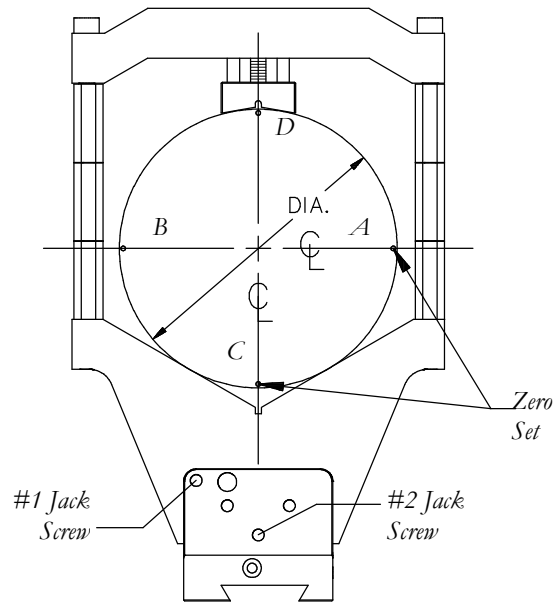

Figure 5
Step 29. (A). For truing the 1st or x-axis place the dial indicator ball at point A, the right centerline of the work piece as shown in Fig. 5. **(B).** Zero the indicator. **(C).** Move the indicator ball to point B, the left centerline. **(D).** Take the reading. **(E).** Multiply the reading by the number in the AB row of Table 1 corresponding to the work piece diameter in Table 1. **(F).** Turn the #1 screw to move the dial indicator back past zero for a total distance as calculated in Step 6. The first axis is trued.
Step 30. (A). For truing the 2nd axis or y-axis, place the indicator ball at point C, the lower centerline of the round work piece as shown in Fig. 5. **(B).** Zero the indicator. **(C).** Move the indicator ball to point D, the upper centerline. **(D).** Take the reading. **(E).** Multiply the reading by the number in the CD row of Table 1. corresponding to the work piece diameter. Do the calculations similar to those shown above. **(F).** Turn the #2 screw to move the indicator back past the zero for a total distance calculated in Step 46. The second axis is trued.